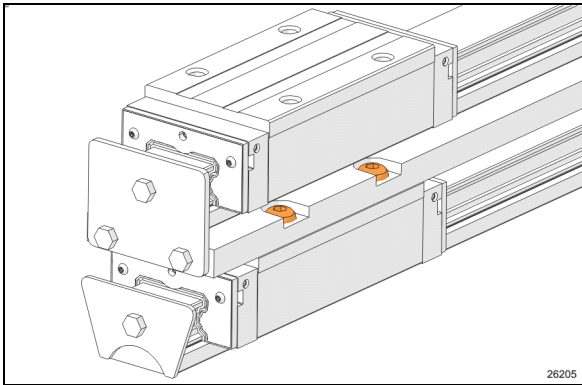

FIGURE 49: BEARING CARRIAGE MOUNTING SCREWS
6. Turn the assembly upside down to access and remove the bearing mounting screws (Figure 49).